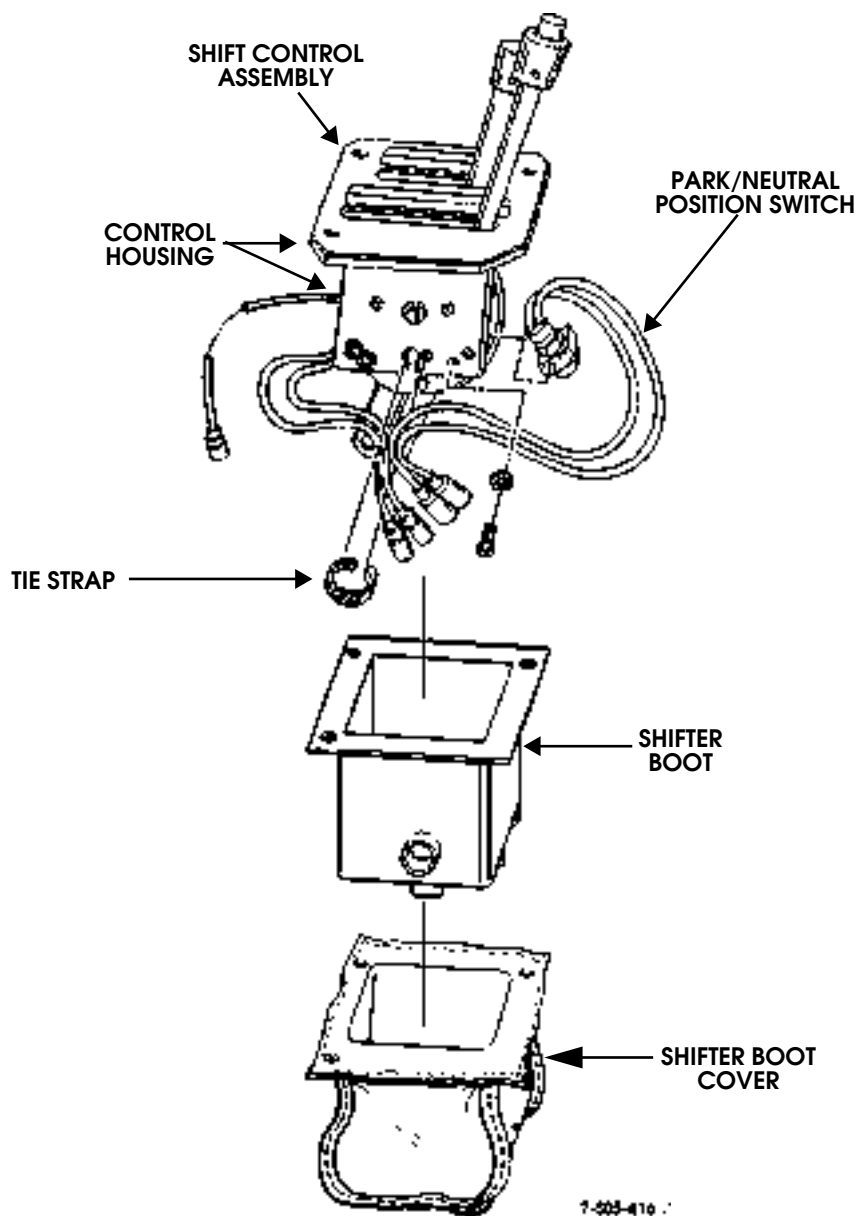

Figure 5-58: Shift Housing Switch Replacement
7. Remove shifter boot cover and shifter boot (Figure 5-58).